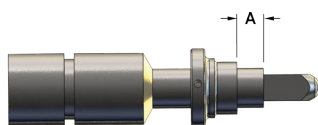

Figure No. 2
4. Slide drive collar large end first over stub shaft until it will not slide any further. For BP441 and 641 models, position collar and set dimension 'A' to 1.65". (See figure no. 2)